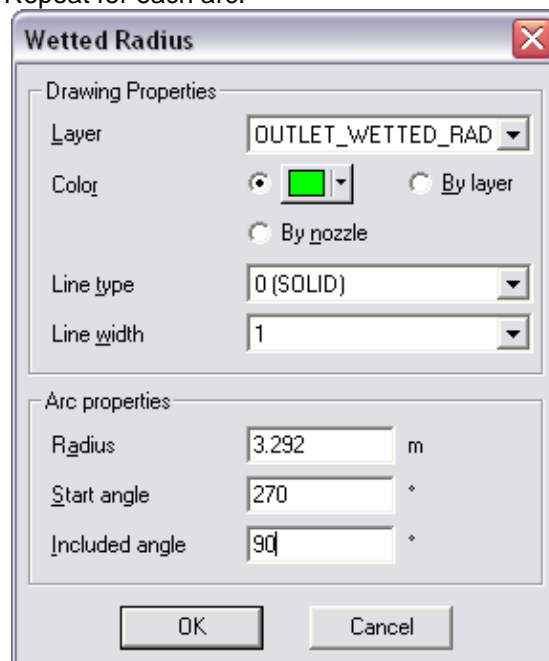

Figure ST 6
11. You will notice that the arcs are not oriented to water inside the square. We will manually fix this by selecting **Modify/Change** and clicking on a wetted arc. In the dialog change the “**Start Angle**” to be **0, 90, 180** or **270** as required (bottom left = 0, top left = 270, top right = 180 and bottom right = 90) as in Figure ST 6. Click **[OK]**. Repeat for each arc.